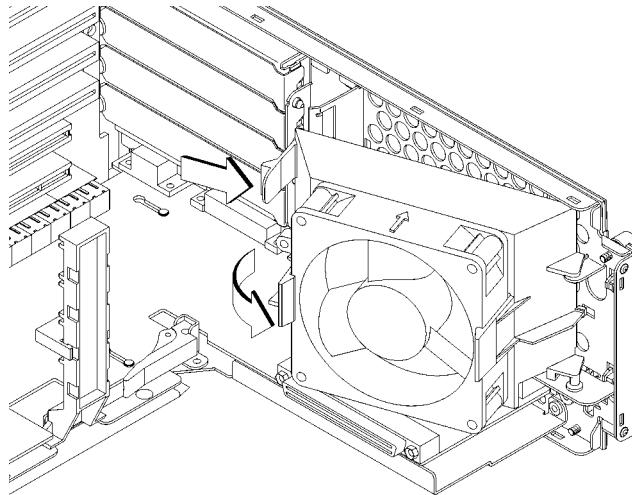

Figure 45 **Rotating the EISA Fan**
- 1 Press the release clip and rotate the fan, as shown in Figure 45.
- 2 Slide the EISA slider to the side to remove it, as shown in Figure 45.